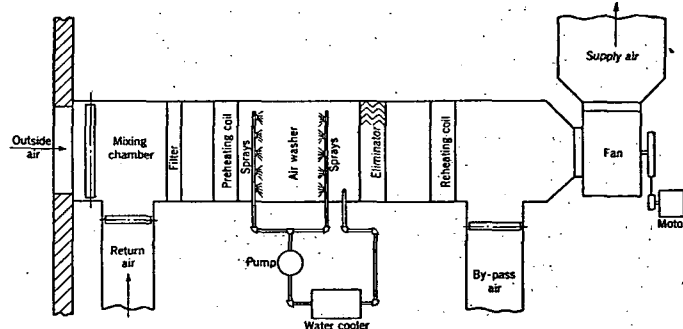

FIG. 2. CENTRAL SYSTEM WITH WASHER AND PREHEATING AND REHEATING COILS
2. Central system with preheating coil, washer and reheating coil (Fig. 2). This is widely used for winter conditioning on larger installations. Summer conditioning is accomplished by using cold water in the washer.